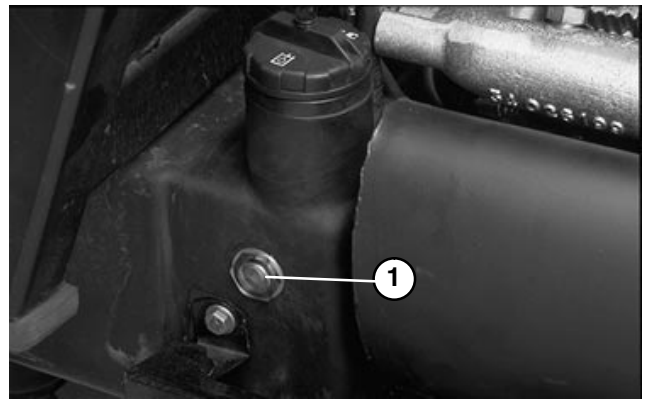

Figure 48
5. With wing decks raised, center deck down and oil warm, look into sight gauge (Fig. 48). If hydraulic oil is not visible, add enough oil to raise level to middle (maximum) of sight gauge. To prevent over filling, do not fill if oil is cold. **DO NOT OVER FILL.**